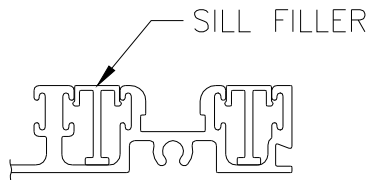

Figure 28:
- Install sill fillers into sill tracks except where it will interfere with the sliding panels (Figure 28).